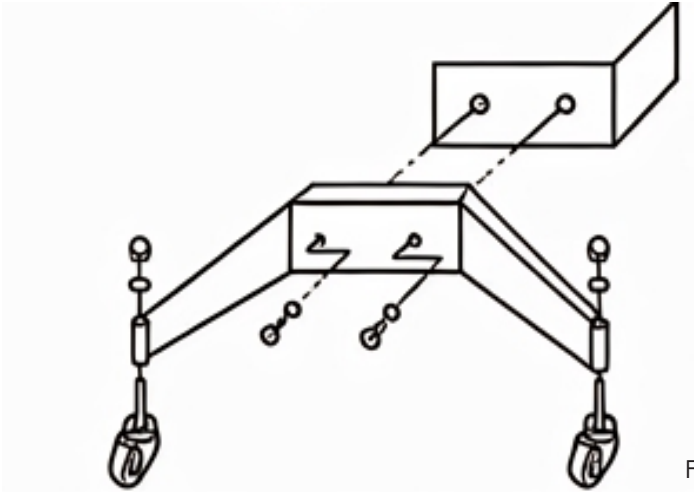

Fig. 2
1. Attach the four wheel components to the two carriages using the supplied blind nut bolts and washers (see Figure 2).